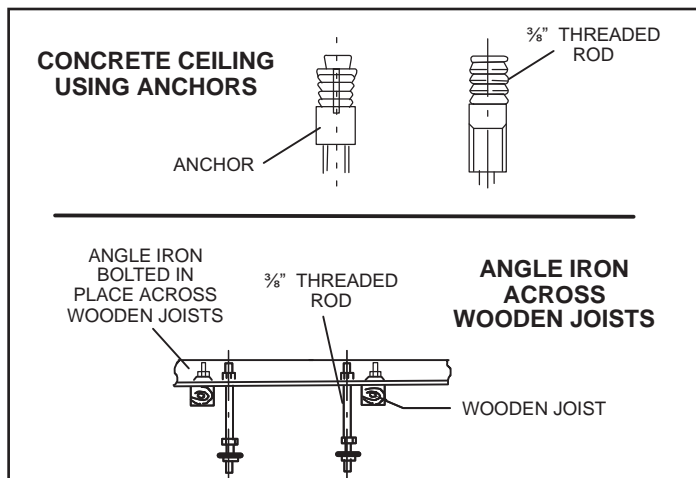

Figure 2. Suspending Methods
2. Install suspension rods in the structural ceiling or concrete slab in a suitable location. If the structural ceiling is constructed of concrete, install anchors to accept four $\frac{3}{8}$ " threaded rods to suspend the indoor unit. If the structural ceiling includes wooden joists, use angle iron or Unistrut channel fixed securely in place to accept the $\frac{3}{8}$ " threaded rods. See figure 2.